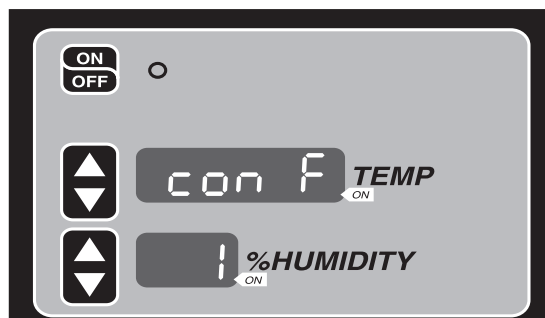

Fig. 23
3. Keep holding the three buttons until "conF" is shown in the Temperature display (Fig. 23).
5. Keep holding the three buttons until "conF" is shown in the Temperature display (Fig. 23).
3. Keep holding the three buttons until "conF" is shown in the Temperature display (Fig 23).